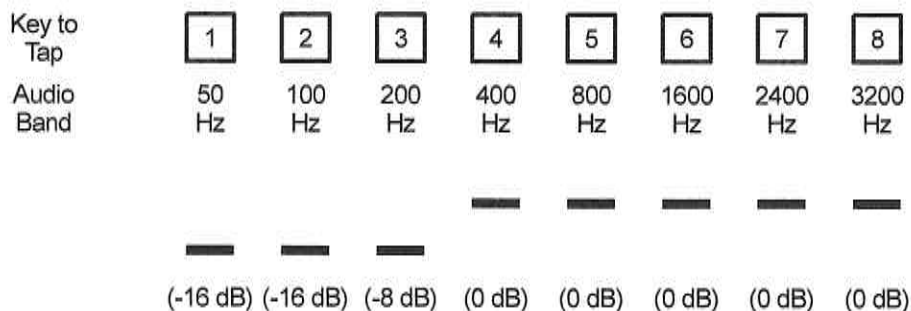

Figure 5-8. Transmit audio equalization.
- Access the **TX EQ** menu. The VFO A display area will show eight bands, whose center frequencies are shown in Figure 5-8. Tapping keys **1** – **8** and tuning VFO A adjusts the microphone gain to a maximum of plus or minus 16 dB for any band. As you rotate VFO A, the gain or attenuation in dB is shown in the VFO B area.